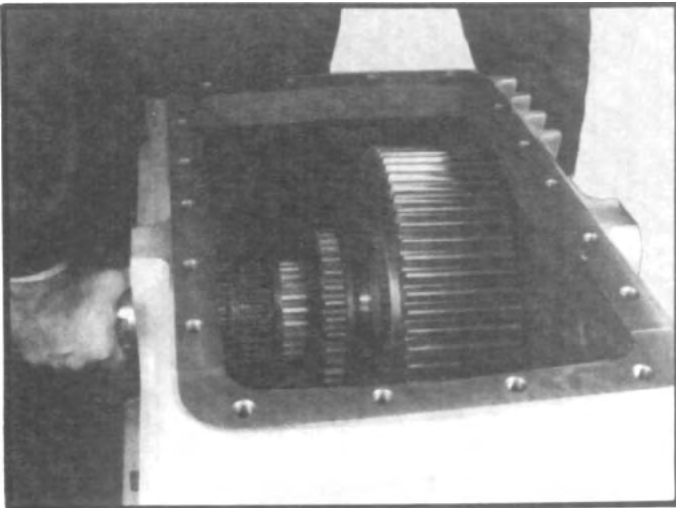
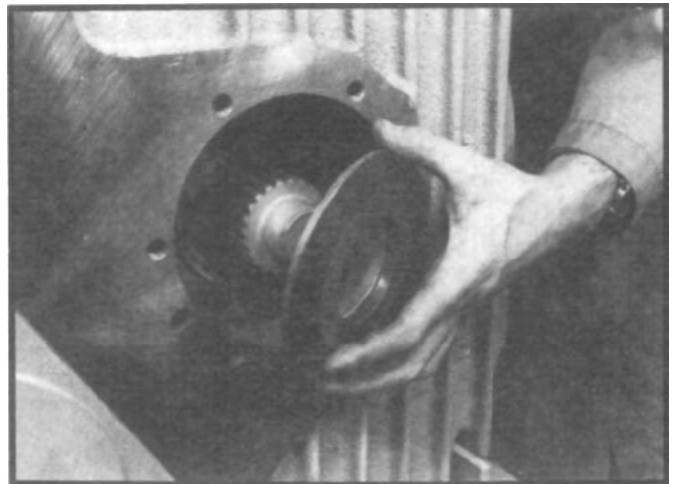

Fig. 100
Fig. 101
- 1.6. Install lower shaft assembly into housing through rear bore. (See fig. 100) Insert shaft assembly into underdrive gear. As shaft assembly enters the front bore, place the thrust washer over front of shaft and against underdrive gear. (See fig. 101) Place flat side of thrust washer against the gear.